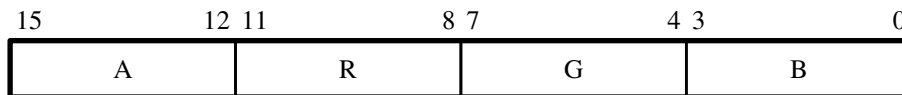

Figure 12. 16-bit RGBA Color Space.
- 16-bit RGBA — This format contains alpha values as well as RGB and uses 4 bits of each color as shown in Figure 12. This mode is defined as 4 bits per color and four color planes.